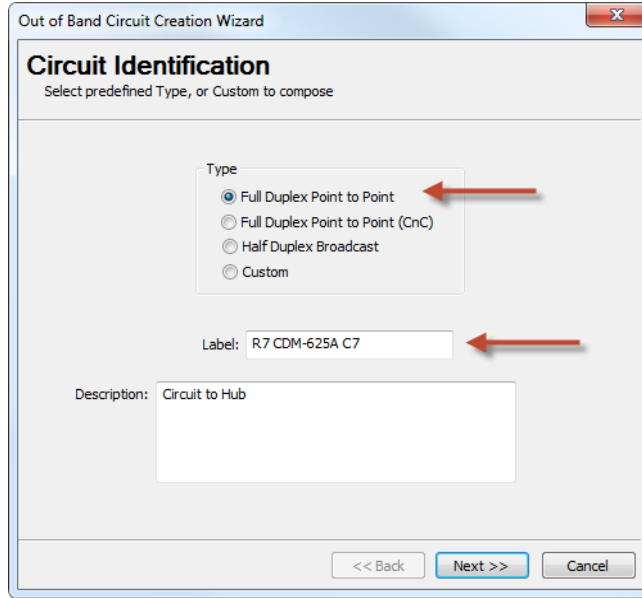

Figure 7-11 Circuit Identification, Full Duplex P2P
1. Right-click on the Remote site icon that will be utilizing the circuit and select **Create OOB Circuit** from the drop-down menu to open the Circuit Creation Wizard. The **Circuit Identification** dialog will appear, as shown in figure 7-11.